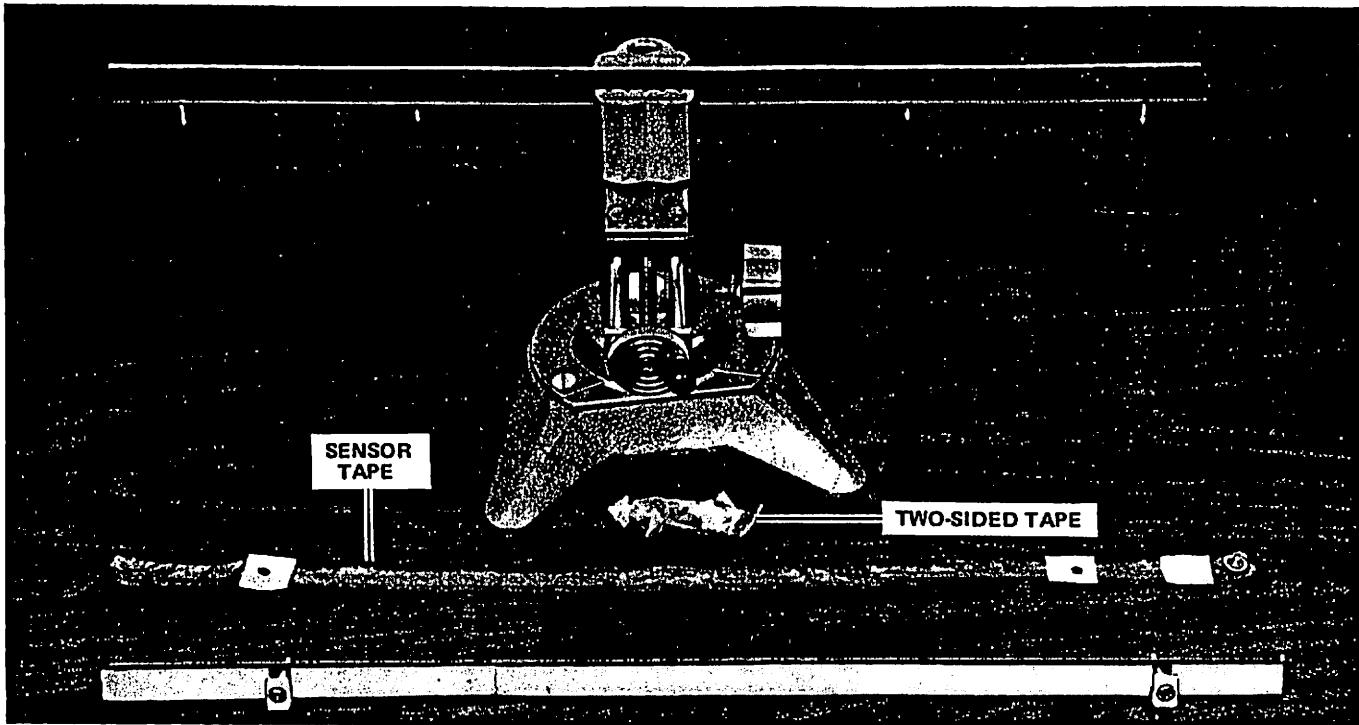

FIGURE 8-4 SENSOR REMOVED FROM TOP SUPPORT
4. Remove and discard the conductive nylon material and the double sided tape (Figure 8-4) being careful to avoid damaging the foam pad.